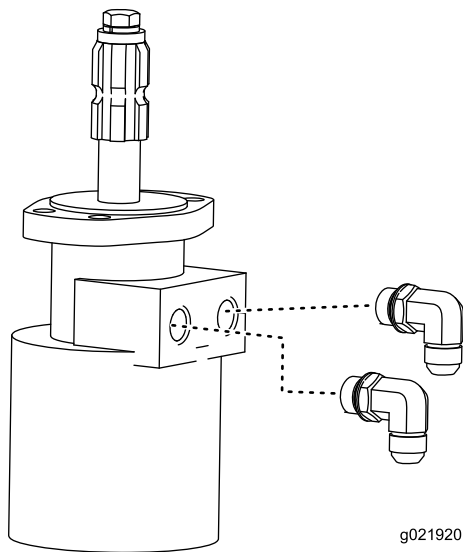

Figure 3
- Install 2 of the 90-degree, elbow fittings into the ports on the motor (Figure 3).